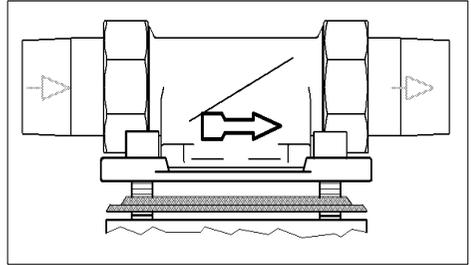

Fig. 5: Fitted Rotating Flange
**The fitted rotating flange should be installed in the direction of the water flow. This is marked by the arrow (please refer Fig.5).**
The profile of the profile flange seal should point towards the fitted rotating flange. If this is not the case leaks may result and water may escape. This may result in flooding and damages to the house, furniture or other household equipment (see Fig. 5).